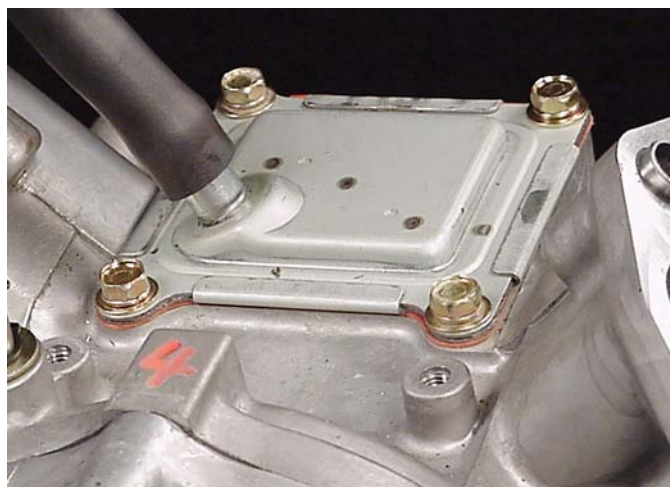

Fig. 148
6. Install breather with new gasket, Fig. 148. Torque screws to **35 in. lbs. (4.0 Nm)**.